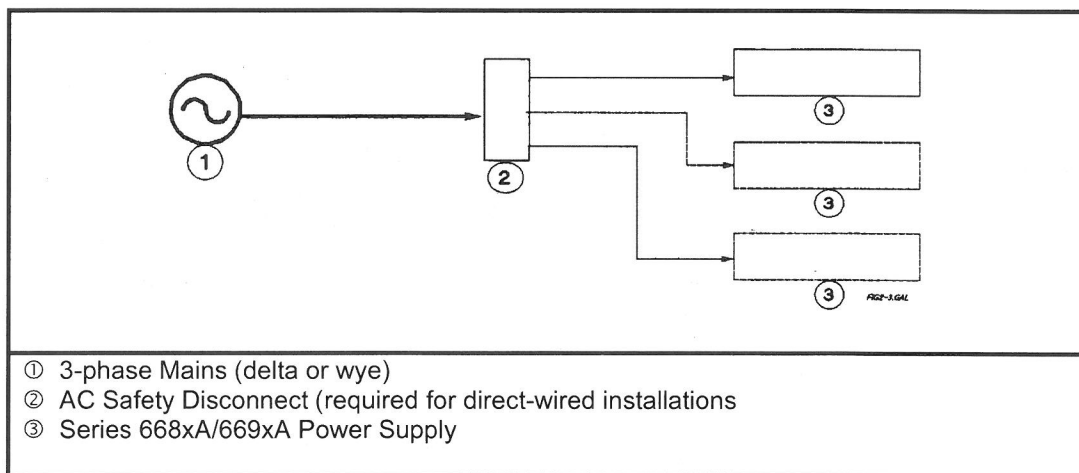

Figure 2-4. Series 668xA/669xA Overall Wiring Diagram.
The Series 668xA power supply requires a 3-phase power source that provides 7350 VA (6000 W) maximum. The supply has a delta input (no neutral connection) and will accept power from either delta (triangle) or wye (star) sources. Two voltage ranges are available (see "AC Input Ratings" in Table 1-4a). *In order to maintain phase current balancing, the power source should be a dedicated line with only Agilent Technologies Series 668xA/669xA supplies drawing current from it.* A disconnect box located near the power supply (see Figure 2-4) is recommended for all installations and is mandatory for direct-wired installations.
- c. **Series 668xA** - Unscrew the fuse caps from the rear panel (2, Figure 2-4). Verify that the fuse is as specified on the label. Replace the fuse.